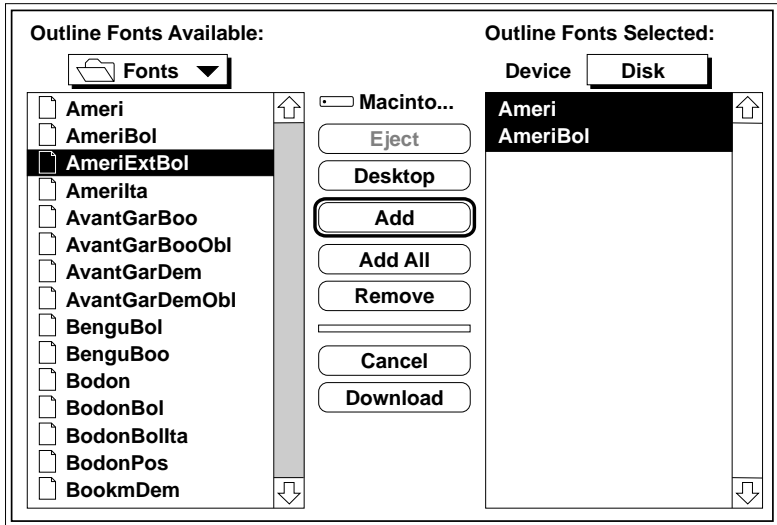

Fig. 6.16 Remove Fonts from Disk
4. Make sure Disk (not Memory) is selected in the upper right corner of the window (fig. 6.16).